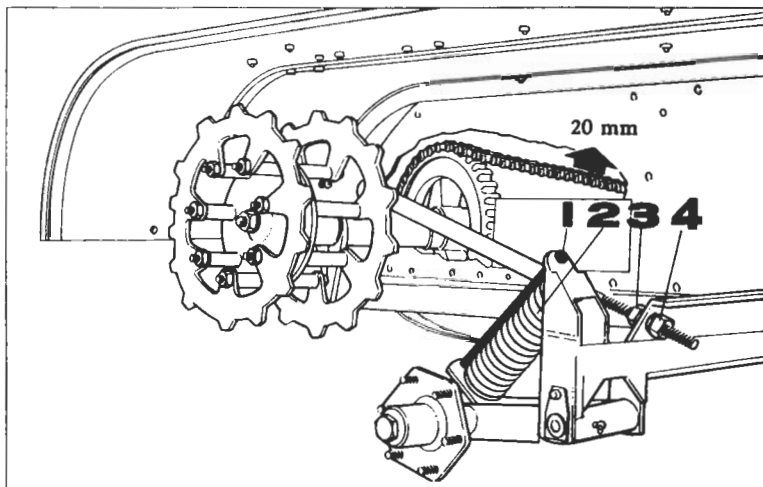

Fig. 16
1. Mount the black tightening bolt 1, which is placed in the tool box, in the holes over the spring 2 behind the front wheel, fig. 16.
Check the tension of the drive chains now and then, and after every 50 hours running. If the chains are insufficiently tensioned this can result in jerky running, particularly when travelling downhill. The chain tension should be checked on the slack part of the chain. The upper part of one of the chains can be tight while that of the other chain is slack. This depends on the direction in which the vehicle has been turned immediately before stopping. When correctly tensioned, it should be possible to lift the middle of the chain about 2 cm (3/4"). The chains are tensioned with the nuts 3, fig. 16, on the either side of the vehicle body. Note that the vehicle should be driven straight forward at least 10 metres (33 ft.) on level ground before the chain tension is adjusted.